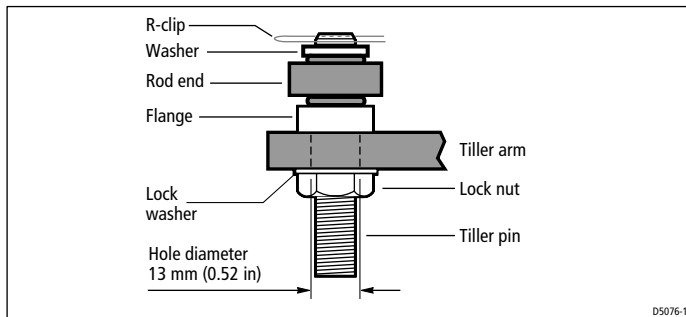

Figure 6: Attaching the push rod to the tiller arm
- tiller pin assembly (see *Figure 6*) consisting of: tiller pin, R-clip, top washer, lock washer, nut ( $\frac{1}{2}$  inch UNC nylock)
- insert the tiller pin through the tiller arm hole, so the flange remains above the arm (see *Figure 6*)
- secure with the supplied washer and R-clip (see *Figure 6*)